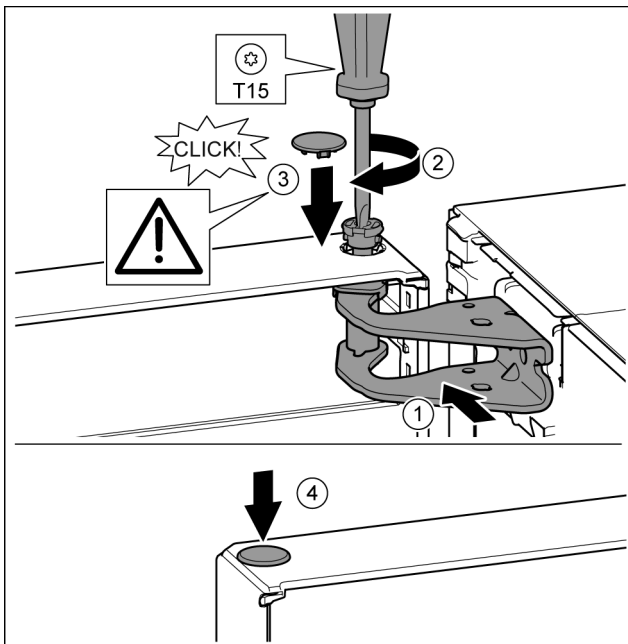

Fig. 18
- ▶ Align the top of the door with opening in the bearing bracket. Fig. 18 (1)
- ▶ Insert the bolt and tighten with a T15 screwdriver. Fig. 18 (2)
- ▶ Fit the protective cover to protect the door: Insert the protective cover and check that it is attached to the door. If not, insert the bolt fully. Fig. 18 (3)
- ▶ Insert the plugs. Fig. 18 (4)